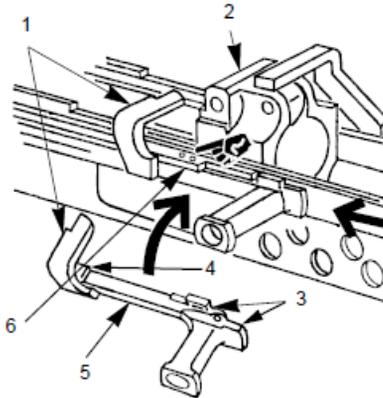
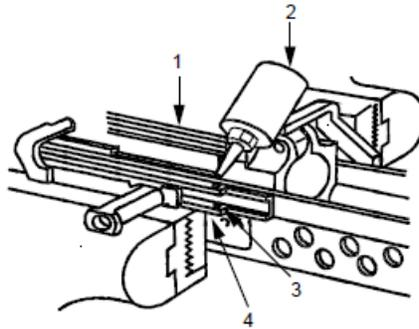

Figure 23. Assembly of Cocking Handle.
Figure 24 . Receiver Assembly and cocking handle Channel.
1. Tilt cocking handle down (Figure 23, Item 5). Place rear tab (Figure 23, Item 4) into lower rail of cocking handle channel (Figure 23, Item 6) with cocking arm (Figure 23, Item 1) to rear of receiver block (Figure 23, Item 2). Tilt cocking handle up (Figure 23, Item 5) and slide to the rear, while engaging front tabs (Figure 23, Item 3), into upper and lower rails of cocking handle channel (Figure 23, Item 6).
2. Position receiver assembly (Figure 24, Item 1) into vise with jaws apart to provide support without crushing assembly in vise, and support cocking handle channel (Figure 24, Item 4) of receiver assembly (Figure 24, Item 1) under pin holes.
3. Place tabs of cocking handle stop (Figure 23, Item 3) into cocking handle channel (Figure 24, Item 4) slide toward the rear, and align both holes of cocking handle channel (Figure 24, Item 4) with slots in cocking handle stop (Figure 23, Item 3). Apply a drop of sealing compound (WP 0051, Item 13) (Figure 24, Item 2) to both upper and lower holes in the cocking handle channel (Figure 24, Item 4).